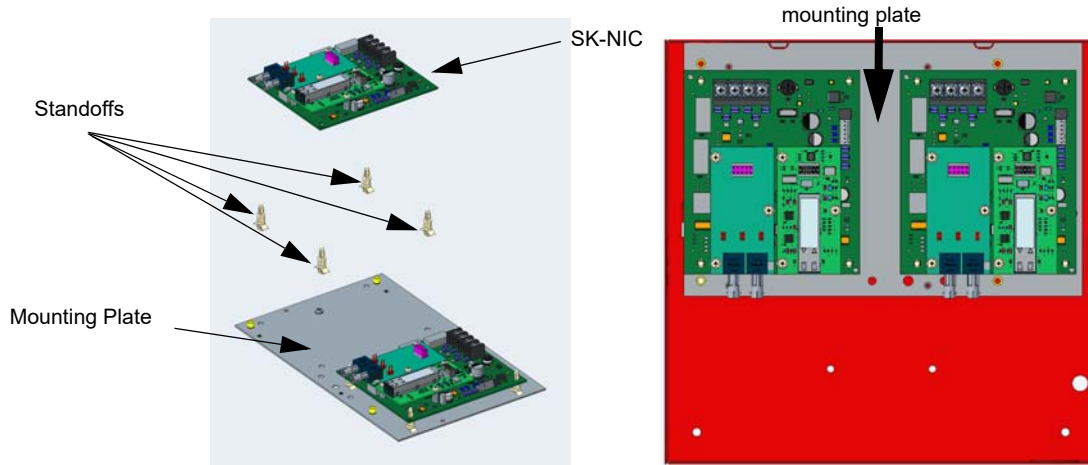

Figure 3 Mounting the TR-NIC in the TR-NIC-KIT or 5815RMK
2. Refer to Figure 3 when using the TR-NIC-KIT or TR-5815RMK.
Figure 3 shows the TR-NIC installation to the TR-NIK-KIT.